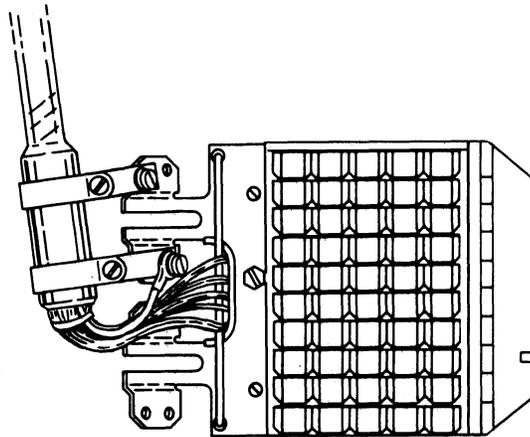

Figure 28. C-378 Connector "Stub Up" Position
11.02 C-378 CONNECTOR. For C-378 Connectors, follow the method described in paragraph 11.01, but refer to figure 28.